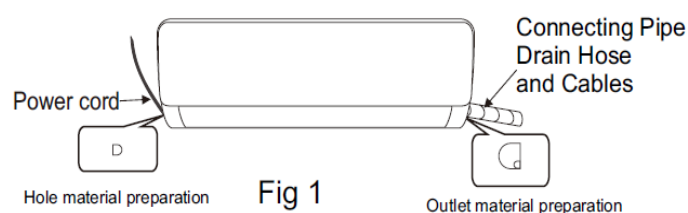
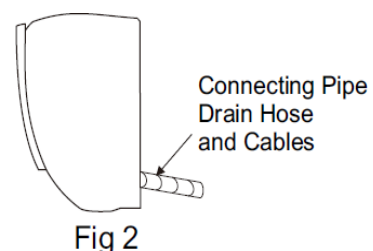

Fig 1
Fig 2
1. Depending on the position of the unit, the piping may be routed sideway from the left or the right (Fig 1), or vertically from the back (Fig 2) (depending on the pipe length of the indoor unit). In the case of sideway routing, cut off the outlet cutting stock of the opposite side.